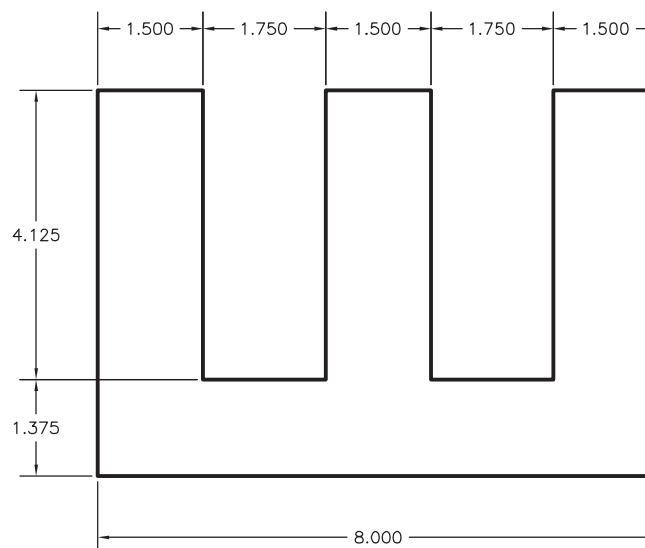

Fig. 11-13
- The core of an electromagnet is made up of a series of thin “slices,” or laminations. The laminations concentrate the electromagnetic field, adding strength. Draw the lamination shown in Fig. 11-13. Keep track of your time. Do not dimension, but save the drawing.